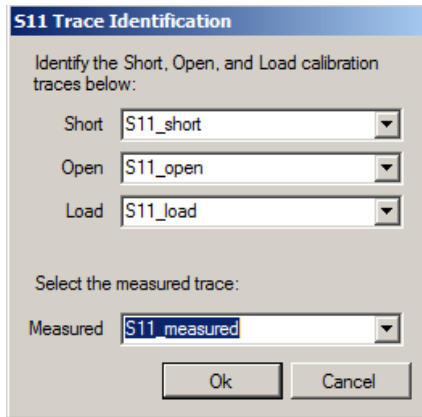

Figure 5.38 S_{11} Trace Identification window with traces selected for short, open, load, and measured.
3. In the pop-up window, identify the short, open, load, and measured trace (Figure 5.38).